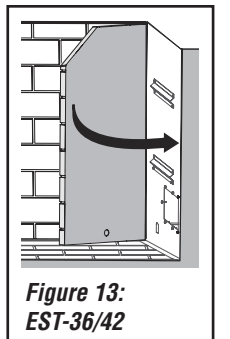

Figure 13: EST-36/42
- 8.1. Refer to **Figure 13, at right**. With the back surface of the panel facing the front of the firebox, insert the back edge of the panel first, then "swing" it to the side wall.